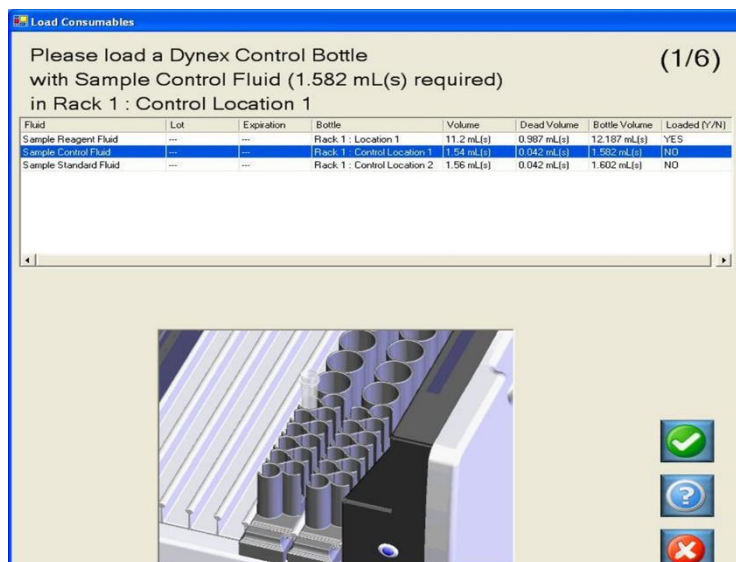

Figure 143: Load Consumables Screen
- Click  when the samples are loaded. The *Load Consumables* window (Figure 143) is displayed.